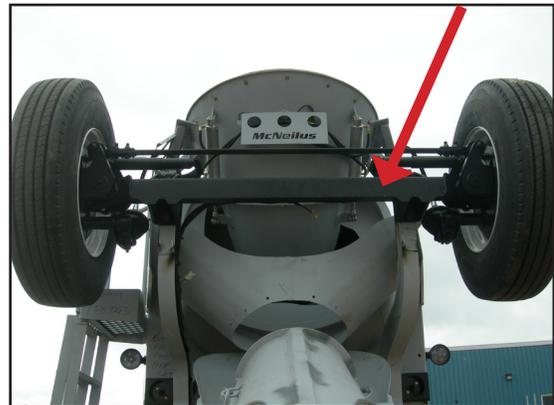

Figure 3: If the axle is a Square Cross Tube, follow the remaining instructions.
4. If the axle cross tube is a square cross tube, follow the remaining instructions in this bulletin (see Figure 3).